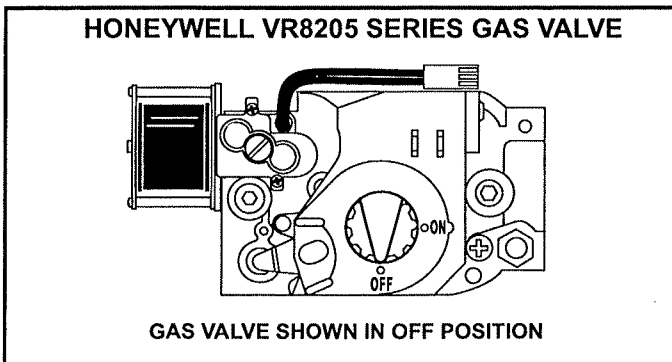

FIGURE 3
Operating the Gas Valve (Figure 3)
- 6 - *Honeywell VR8205 Gas Valve* - Turn knob on gas valve clockwise to **OFF**. Do not force. See figure 3.